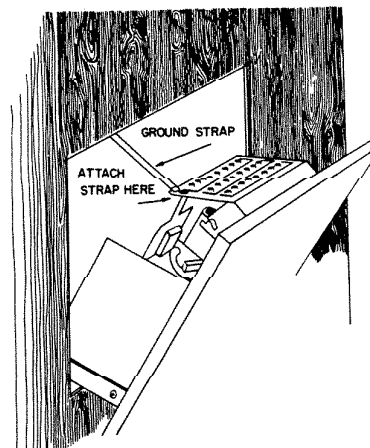

Fig. 5. Master Station Mounting
2. Slide out Master unit until tabs on bottom chassis plate engage angle mounting brackets in wall box. Then allow unit to hang forward supported by ground strap. See Fig. 5.
Place Master unit partially into wall box with tabs on chassis bottom cover behind the angle mounting brackets. Attach ground strap in wall box to ground screw on top of chassis (Fig. 5).